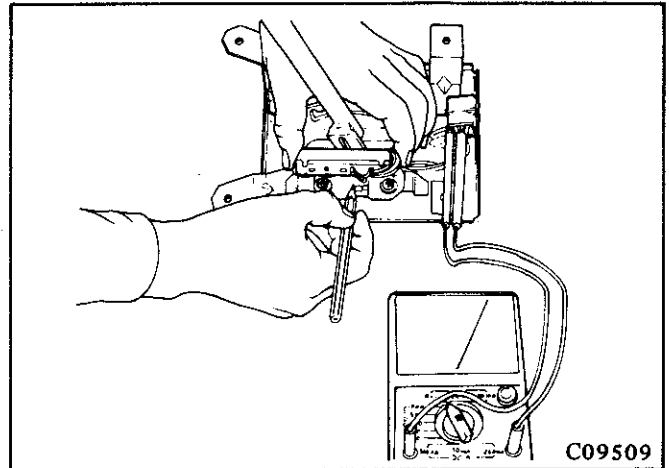

Fig. 6—Measuring the range of "N" position
(4) With the selector in "N", temporarily install the inhibitor switch (where fitted). Move the switch back and forth measuring the range of the "N" position (see Fig. 6). Mark the range on the lever bracket, position the switch so that it's in the middle of the marked range and temporarily tighten.